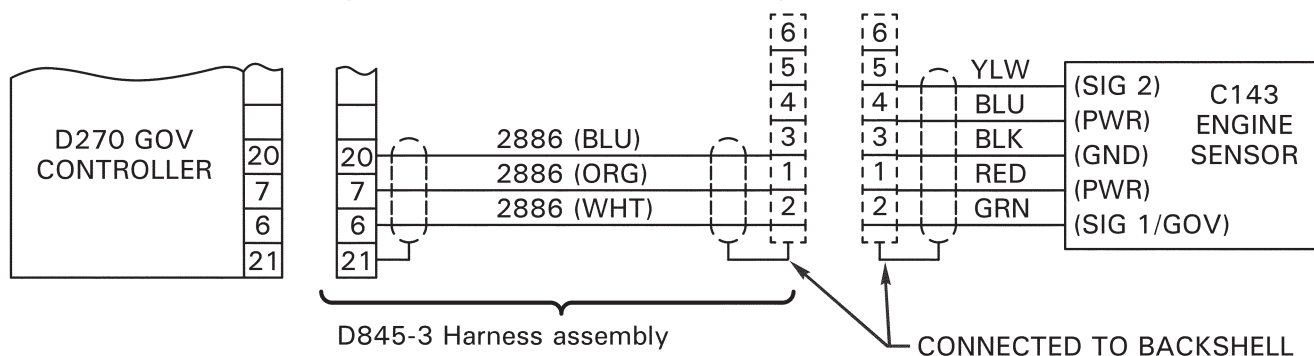

**FIGURE 9 Proper wire installation**
19. Strip 0.18-inch insulation from (-2886) wires. Crimp (1) B269-66 HD socket onto orange-striped, blue-striped & white wires. Using 10X magnification, inspect crimps per MM § 23-84. Verify no nicked or broken conductors (wire strands), and no insulation damage.
21. Refer to Figure 9. Slide black expansion sleeve under heat shrink to within 1-inch of connector and apply 400°F heat using heat gun. Assemble backshell on connector. Ensure GOV heat shrink is clamped. Ensure both backshell flange & cover flange retains connector.